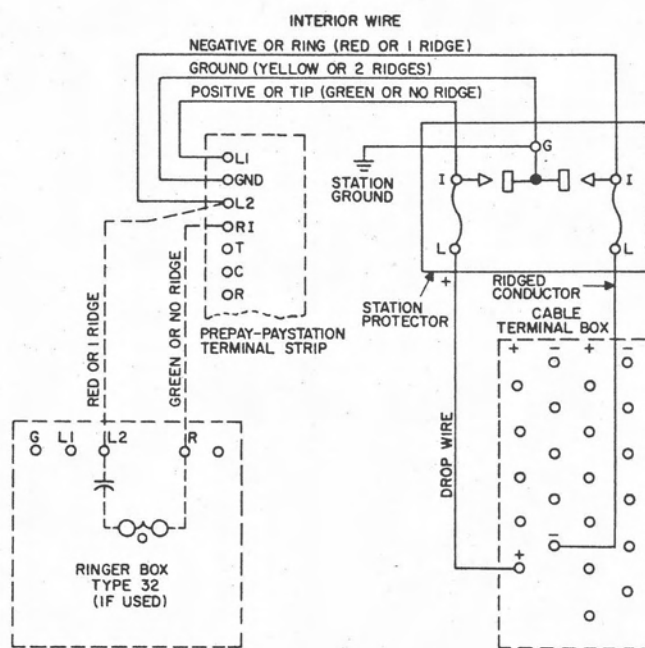

Figure 3. Connection diagram.
- (o) Connect as shown in figure 3.\*